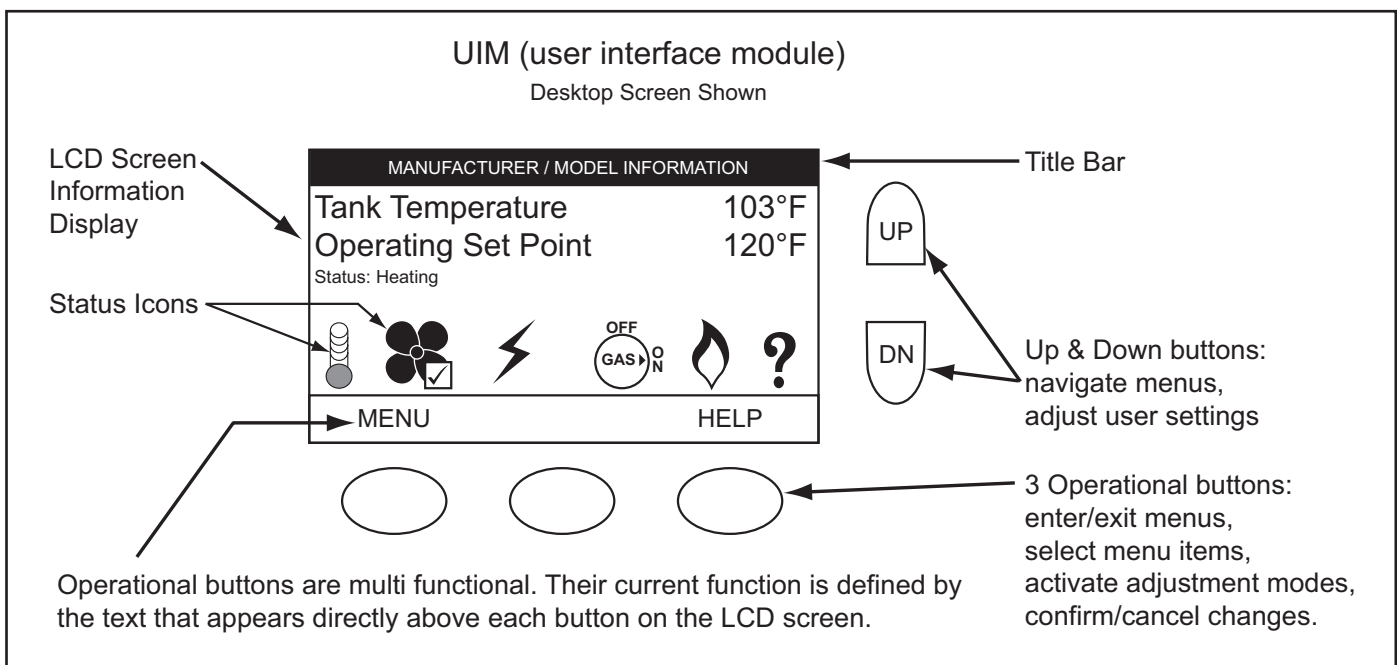

Figure 59
user input buttons; an up, down and three (3) multi functional operational buttons below the LCD, see Figure 59.
The Status Icons are displayed on the Desktop screen and convey operational and diagnostic information. The icons are described in the table below. See Figure 59 on page 44 and the Sequence Of Operation on page 56.
The current operational state of the water heater is displayed on the Desktop screen as the "Status." The common operational states are described in the table below. See Figure 59 on page 44 and the Sequence Of Operation on page 56.